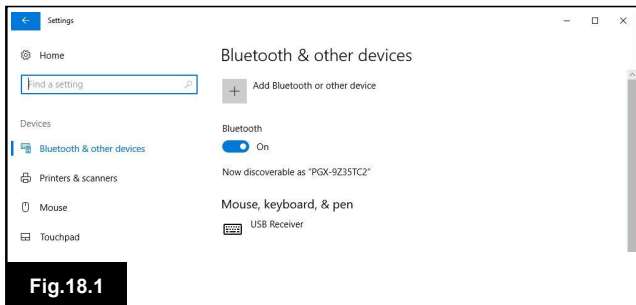

Fig.18.1
18.1 Pairing with a Windows PC (Fig 18.1 to 18.4)
From the Start menu, select Settings, then Devices. A screen such as shown in Fig 18.1 should appear.